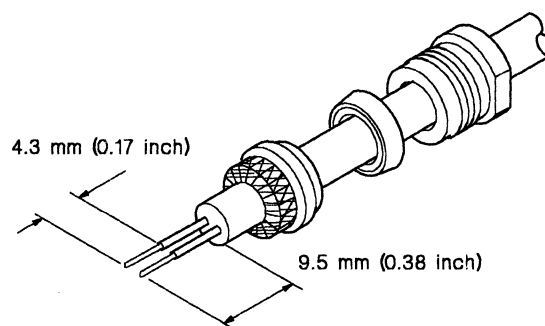

Figure 16. Cutting the Cable Core
4. Cut the cable core and the conductor insulation to the dimensions shown in Figure 16. *Do not nick the conductors or the insulation.* If the braid is frayed, retrim the braid as in step 2 on page 28.